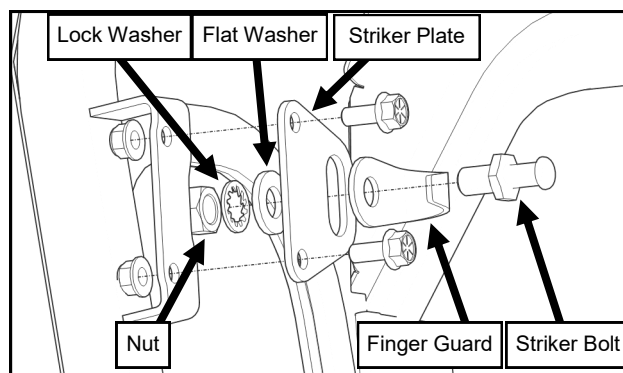

Fig. 23.1B (Door Striker INSIDE for PC Cab)
- 23.1 Install the striker plate to the A-pillar mounting bracket with the large slot to the outside for the CA cab (see Figure 23.1A) or to the inside for the PC cab (see Figure 23.1B)